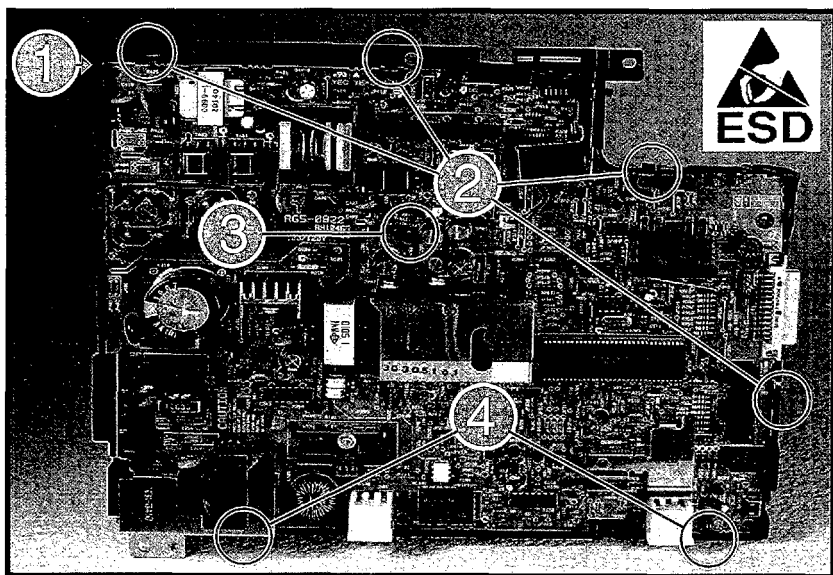

Figure 6-40 Removing the DC Controller PCA
Be careful not to lose the metal grounding clip that is attached to the mounting plate (Figure 6-40, callout 1).
5. Push the four plastic pressure tabs out to release (Figure 6-40, callout 2).
6. Squeeze the alignment pin together to release (Figure 6-40, callout 3).
7. Tilt the PCA outward at the top until it clears the lower two clips and remove the PCA (Figure 6-40, callout 4).